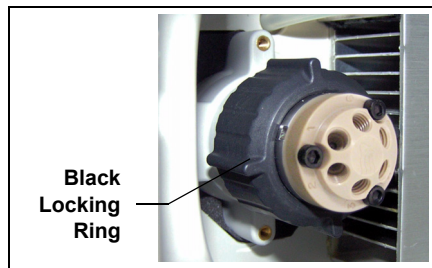

Figure 9-46. Unscrewing the Locking Ring
4. Unscrew the black locking ring on the front of the valve (see Figure 9-46) and remove the ring.